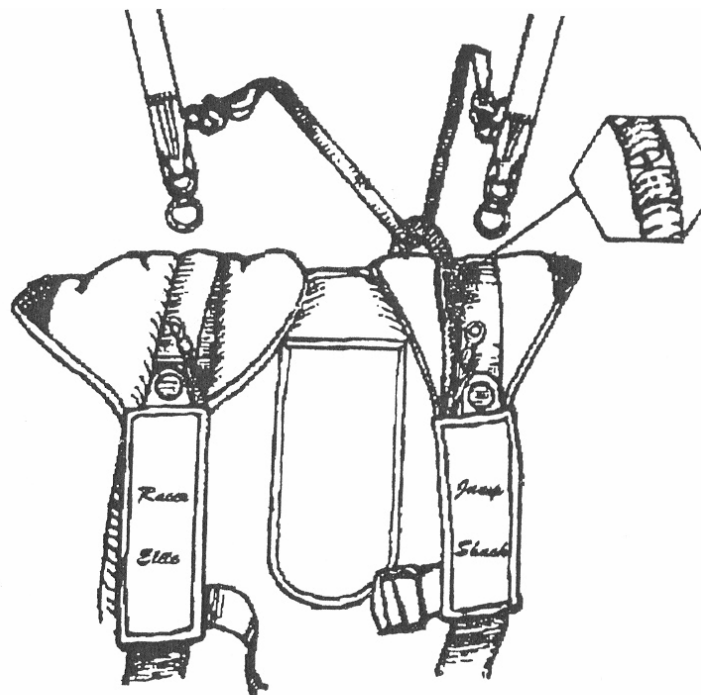

Figure 3.
Step 6. Determine the correct length of the bottom section of the two piece reserve ripcord cable housing using the attached matrix. (Appendix A) Then route the long section of the two piece reserve ripcord cable housing through the mudflap, over the shoulder padding, and through the pre-cut slot at the shoulder. Align one end of the long reserve ripcord cable housing with the bottom edge of the mud flap and attach it to the inside of the mudflap at or near the chest strap by hand tacking it with waxed 5 cord in the same fashion as the original one piece reserve ripcord cable housing was attached. The other end of the bottom reserve ripcord cable housing should be joined to the top section with the PVC Tubing. (see Figure 3. [sub-box])
Step 9. Install and route the RSL as follows. **Note: It is important to follow these directions exactly to avoid routing the RSL under the yoke flap.** Pass one end of the RSL under the 6" long portion of the ripcord housing. **DO NOT PASS THE RSL UNDER THE RESERVE RISERS OR THE YOKE FLAP OF THE RESERVE CONTAINER.** (See Figure 3.)